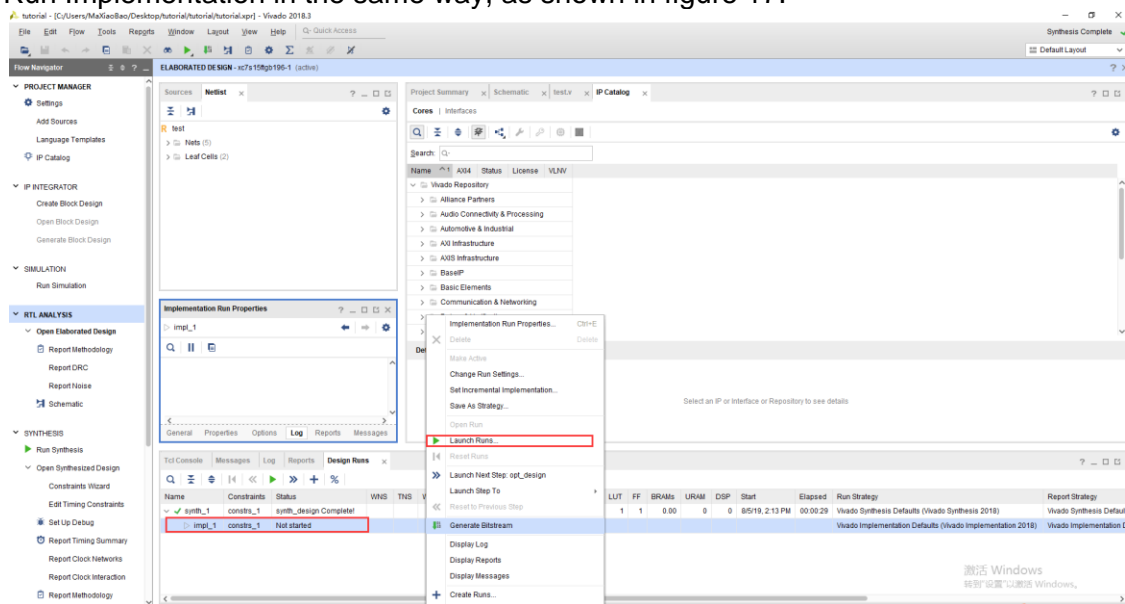

Figure 17.
1. Run Implementation in the same way, as shown in figure 17.